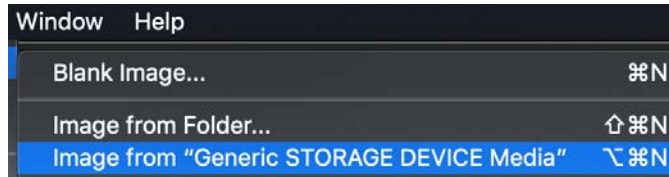

Figure 5.11 – Image from STORAGE DEVICE
6. Under this, select **Image from <your storage device>** (*Figure 5.11*):